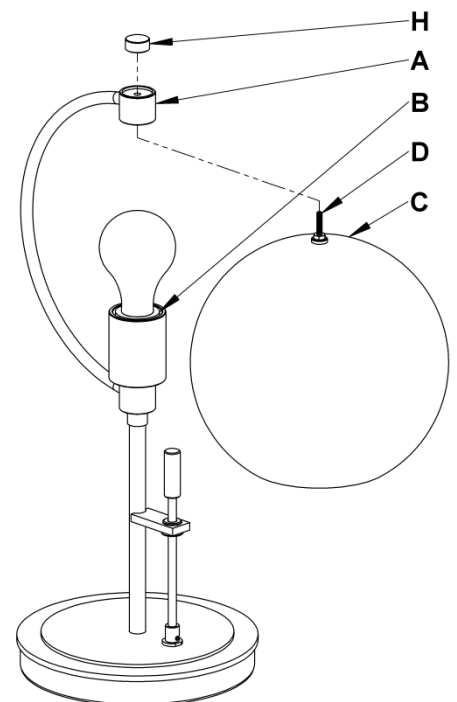

Figure 2
7. Tilt glass (C) over bulb. Slide screw (D) up through hole in top of fixture (A). Thread cap (H) onto end of screw (D) to secure glass (C). (Figure 2)